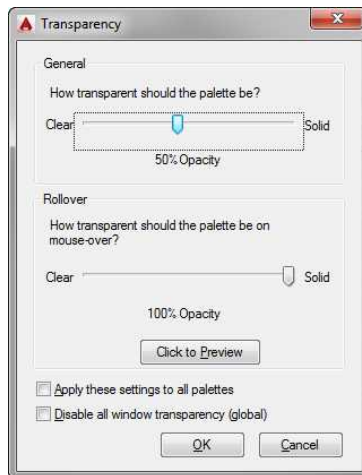

FIGURE 7.61: The Transparency dialog box
6. Right-click and choose Transparency from the context menu to open the Transparency dialog box (see Figure 7.61).